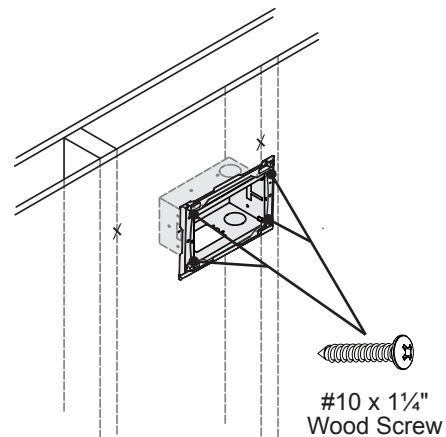

Figure 2
- 4 Insert four (4) #10 x 1 1/4" wood screws into the corner screw holes to fasten the back plate to the wall (Figure 2).